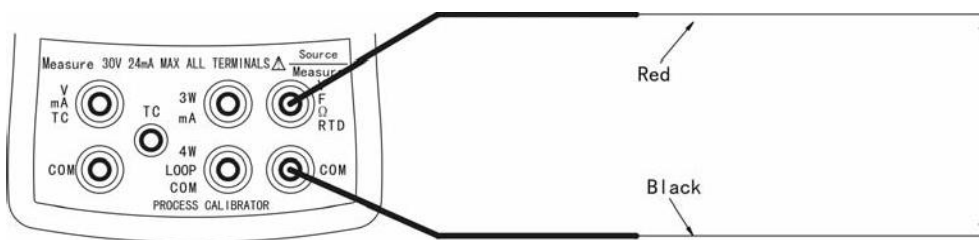

Figure6-4 Frequency Sourcing Connections
- (1) Press  until the lower display shows "SOURCE".
- (2) Press  to select frequency until the display shows "Hz".
- (3) Connect the test leads as shown in Figure6-4.
- (4) Enter the desired output value by pressing numeric keypads